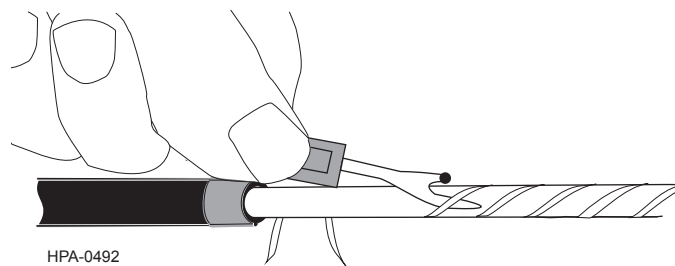

Figure 13
4.8 Use a seam ripper every 2 in (5 cm) to cut the single binding tape that secures the water blocking tape to the cable core (Figure 13).